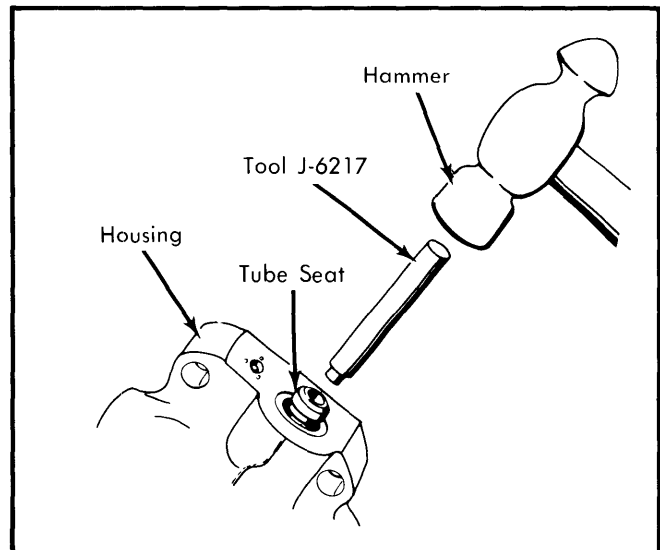

Fig. 7 Installing General Motors Tube Seats
2) On Chevrolet and GMC models, install tube seat as shown in Fig. 7. On Dodge and Plymouth models, position tube seats in booster ports and screw a spare tube nut into each port to seal tube seat. Remove spare nuts and ensure that ports are free from burrs or shavings.